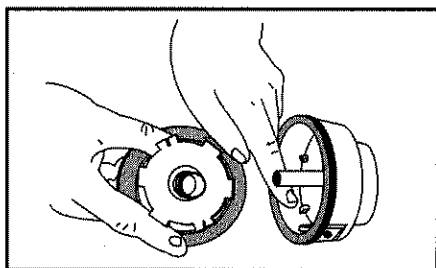

Fig. 15
4. Check the indexing teeth on the inner reel and outer spool for wear (Fig. 15). If necessary, remove burrs or replace the reel and spool.